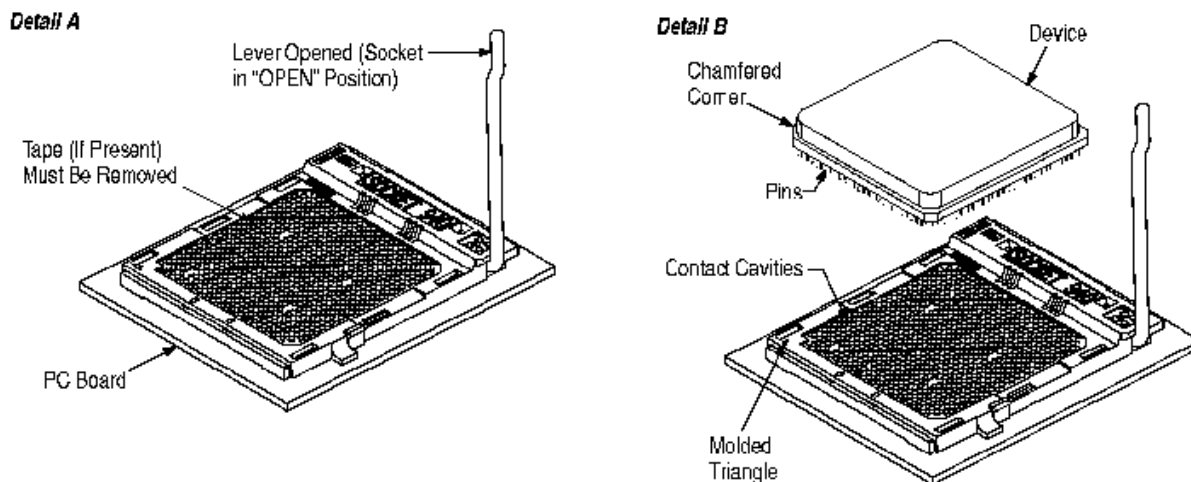

Figure 3
- A. Grasp the end of the lever, and lift the lever (disengaging it from the locking latch). Rotate the lever until it stops (approximately at a 90° angle). The socket is in the “OPEN” position. See Figure 3, Detail A.
- B. Match the Pin 1 identifier (chamfered corner or filled triangle) of the device with the Pin 1 identifier (molded triangle) on the socket, and align the pin pattern of the device with the contact cavity pattern of the socket. Carefully lower the device onto the socket so that the pins enter the contact cavities. See Figure 3, Detail B.